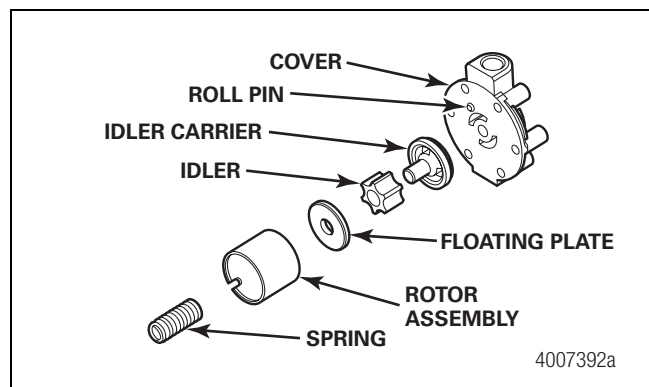

Figure 6.37
1. Install the floating plate, idler and idler carrier into the rotor body. Figure 6.37.